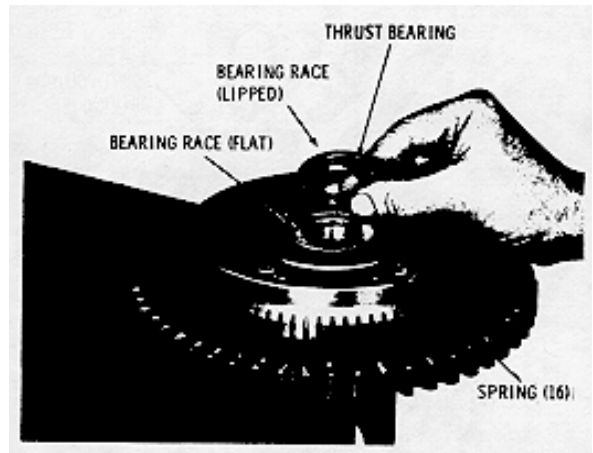

Fig. 6-44. Installing forward clutch thrust bearing
(4) Install the flat bearing race onto the hub of the forward clutch housing (fig. 6-44). Install the thrust needle bearing and the lipped bearing race so that it encloses the bearing. Retain the bearing and races with oil-soluble grease.